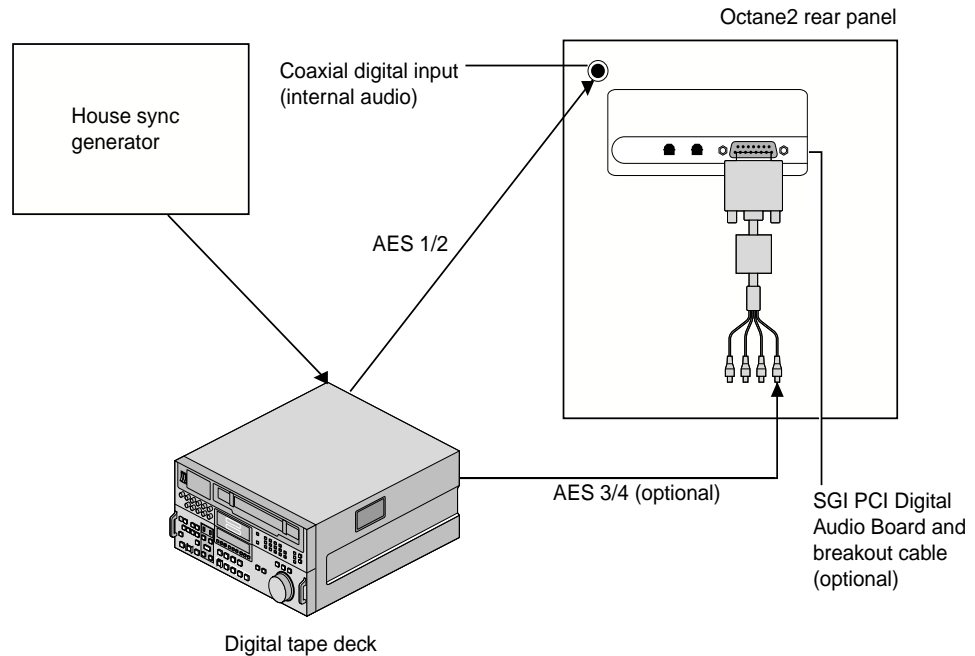
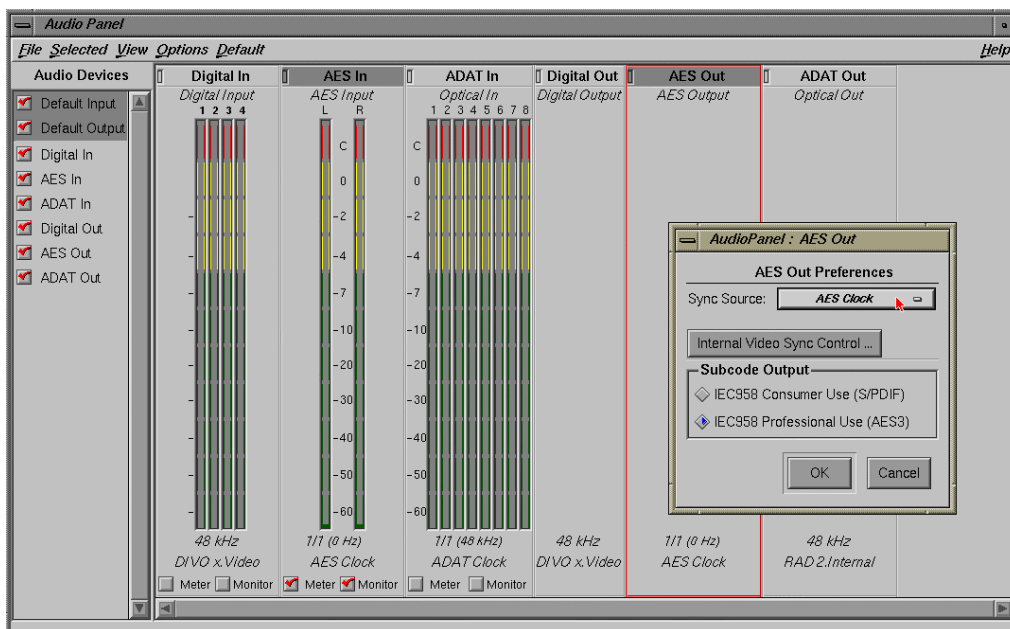

Figure 4-1 Synchronizing Audio on an Octane2 Workstation
Figure 4-4 Synchronizing the Octane2 Internal Audio
1. Connect a house sync generator to a digital tape deck, as shown in Figure 4-1.
The Preferences menu appears for the respective output device, as shown in Figure 4-4.
The example in Figure 4-4 shows how to set up the configuration displayed in Figure 4-1 for synchronizing the Octane2 internal audio using the AES input.